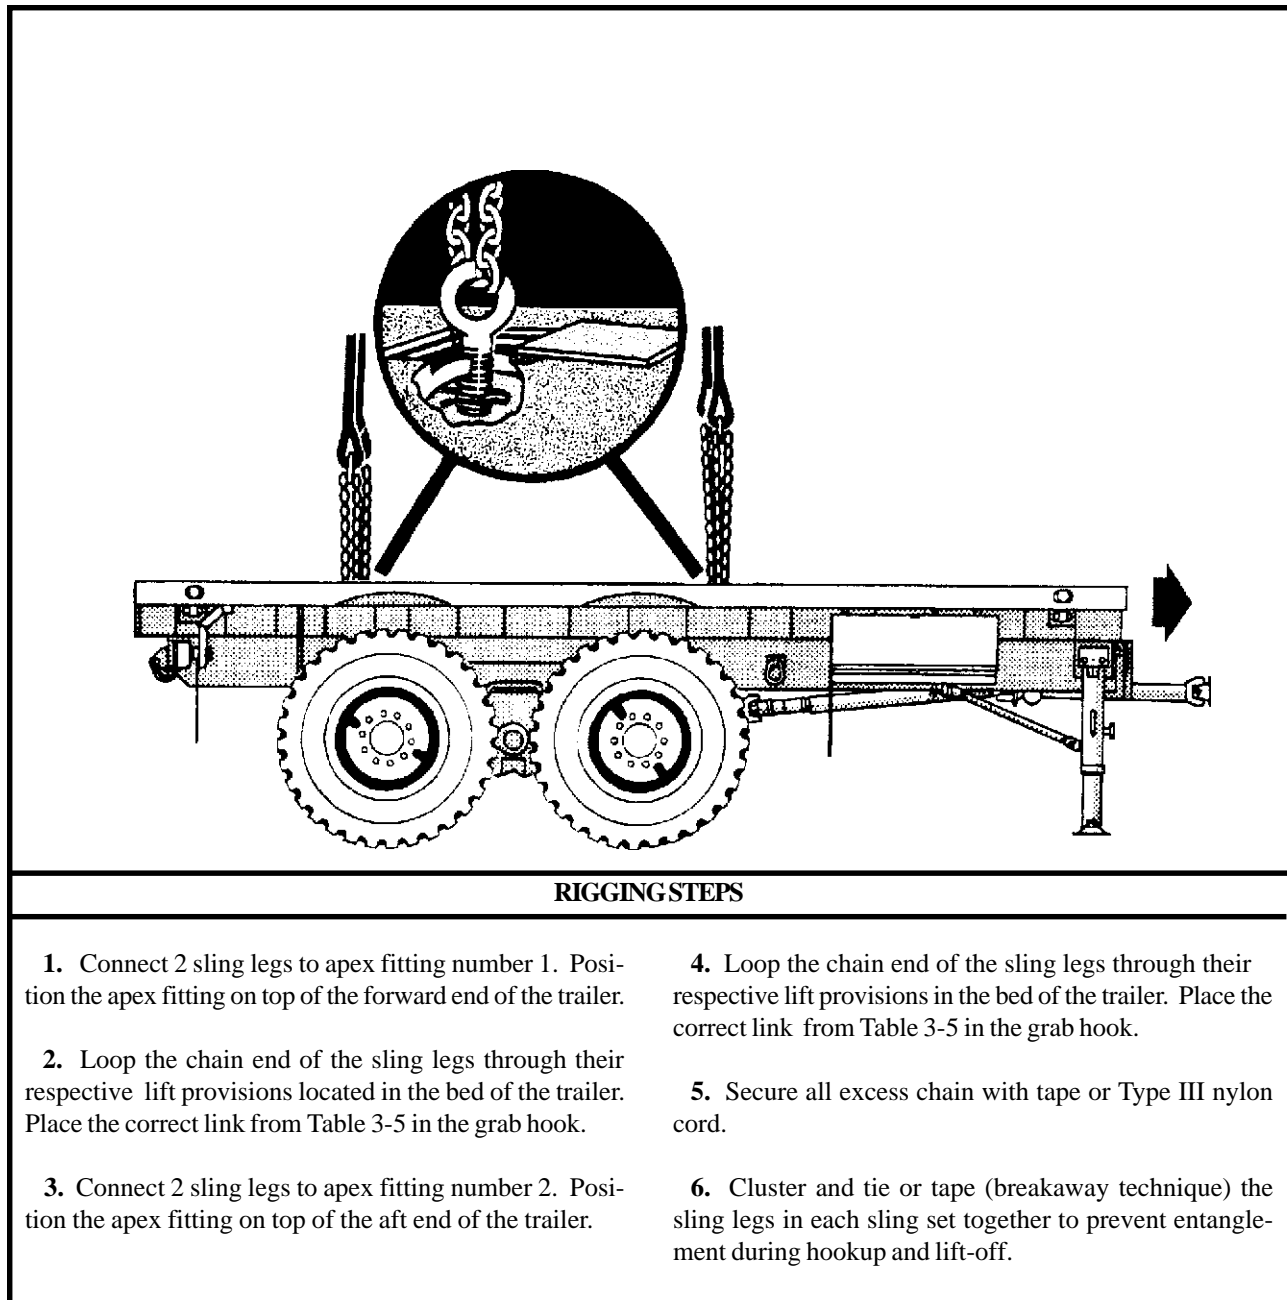

Figure 3-5. Mk14 Trailer, Container Hauler
(2) **Rigging.** Rig the load according to the steps in Figure 3-5.
(4) **Derigging.** Derigging is the reverse of the preparation and rigging procedures in steps d (1) and d (2).